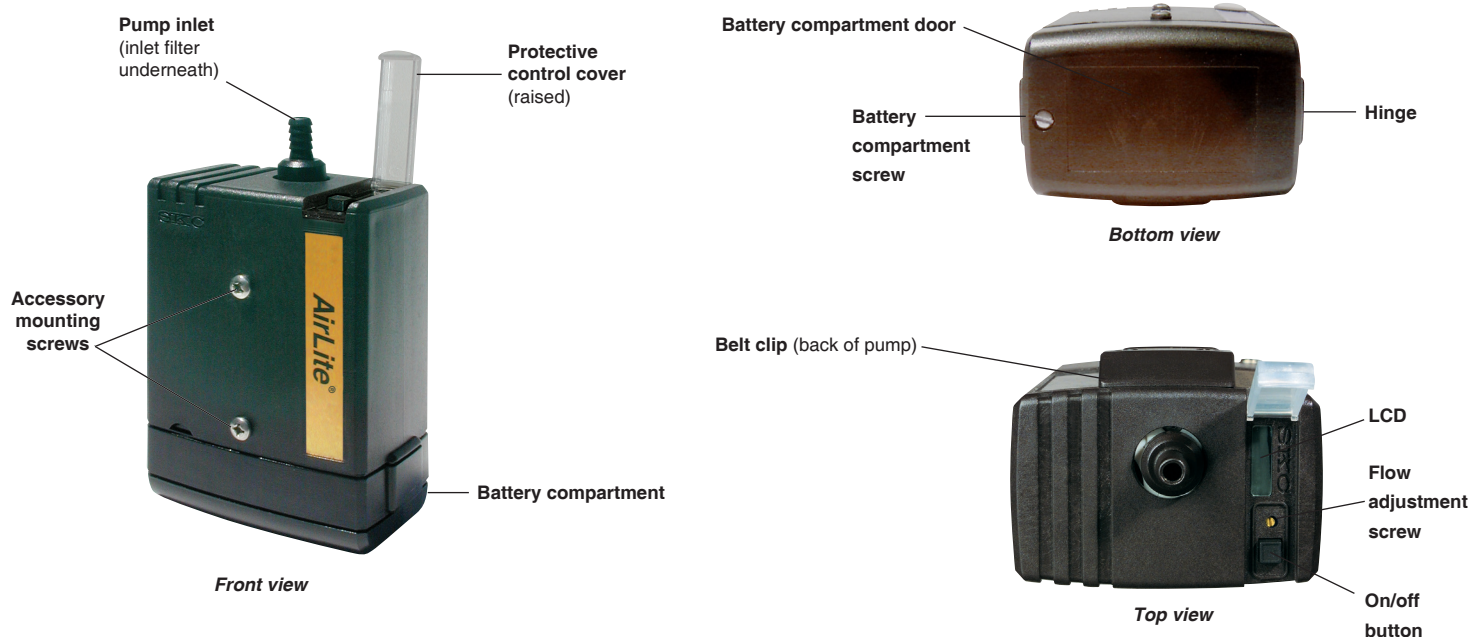

Figure 1. AirLite Sample Pump with Timer
The AirLite Sample Pump with Timer (Figure 1) provides 5 to 3000 ml/min flows and is suitable for abatement, indoor air sampling, and emergency response in non-hazardous locations.
The AirLite with Timer is powered by three standard AA alkaline batteries located in a compartment on the bottom of the pump (Figure 1). To insert new or replace existing batteries:
1. Use a slotted screwdriver to loosen the screw on the bottom of the case (Figure 1).
4. With the new batteries in place, insert the hinge (Figure 1) on the compartment door under the lip of the case, close the door, and tighten the screw until secure.
1. Turn on the pump using the on/off button (Figure 1) and run for 5 minutes before calibrating. Leave the pump running.
4. Using a small screwdriver, set the pump flow rate by turning the flow adjustment screw (Figure 1) **clockwise** to increase the flow or **counterclockwise** to decrease the flow until the calibrator indicates the method-specified flow rate. Take a minimum of three readings and record the average flow rate, as per OSHA/NIOSH instructions.
3. Set the pump flow rate to 1.5 L/min. Using a small screwdriver, turn the flow adjustment screw on top of the pump (Figure 1), **clockwise** to increase flow or **counterclockwise** to decrease flow, until the calibrator indicates 1.5 L/min.